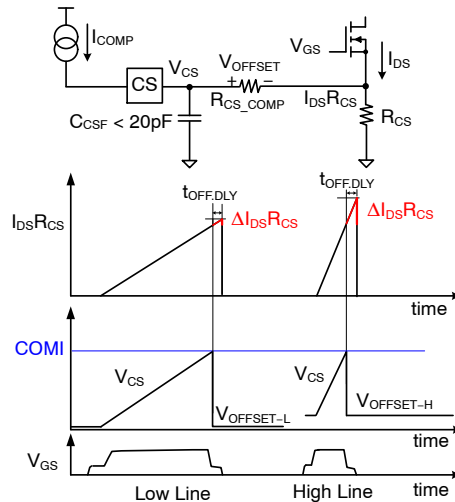
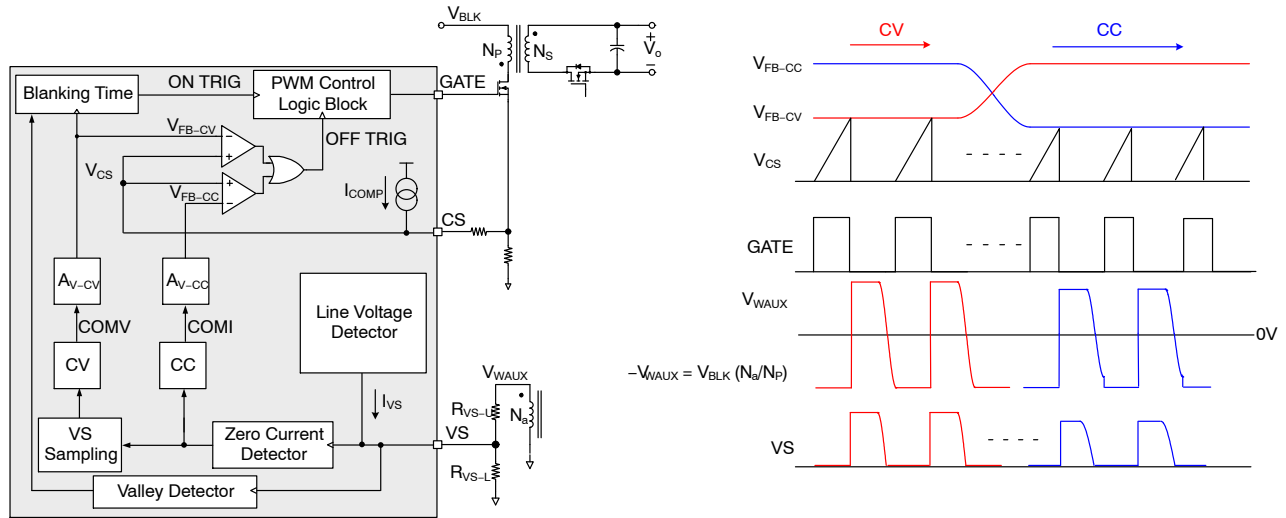

Figure 30. Line Voltage Compensation
Figure 31. Simplified PSR Flyback Converter Circuit
Line information is obtained through the line voltage detector as shown in Figure 31.  $I_{COMP}$  is an internal current source which is proportional to line voltage. The line compensation gain is programmed by using CS pin series resistor,  $R_{CS\_COMP}$  depending on the power FET turn-off delay ( $t_{OFF,DLY}$ ).  $I_{COMP}$  creates a voltage drop ( $V_{OFFSET}$ ) across  $R_{CS\_COMP}$ . This line compensation offset is proportional to the DC link capacitor voltage ( $V_{BLK}$ ) and turn-off delay ( $t_{OFF,DLY}$ ). Figure 30 demonstrates the effect of the line compensation.
Figure 31 shows a simplified CV / CC PWM control circuit of the FAN108. The Constant Voltage (CV) regulation is implemented internally with primary-side control. The output signal of compensation (COMV) is scaled down by attenuator  $A_{V-CV}$  to generate a  $V_{FB-CV}$  signal. This  $V_{FB-CV}$  signal is applied to the PWM comparator to determine the duty cycle.
These two control signals,  $V_{FB-CV}$  and  $V_{FB-CC}$  are compared with a voltage of current sense ( $V_{CS}$ ) by two PWM comparators to determine the duty cycle. Figure 31 illustrates the outputs of two comparators combined with an OR gate, to determine the power FET turn-off instant. Either of  $V_{FB-CV}$  or  $V_{FB-CC}$ , the lower signal determines the duty cycle. During CV regulation,  $V_{FB-CV}$  determines the duty cycle while  $V_{FB-CC}$  is saturated to HIGH level. During CC regulation,  $V_{FB-CC}$  determines the duty cycle while  $V_{FB-CV}$  is saturated to HIGH level.
For heavy load condition, the blanking time for the valley detection is fixed and primary side peak current will be modulated by voltage level of feedback ( $V_{FB-CV}$ ). For the medium load condition, the blanking time is modulated as a function of load current such that the upper limit of the blanking frequency varies from  $f_{BNK-MAX}$  as load decreases where the blanking frequency reduction stop point is  $f_{BNK-MIN}$ . For the light load condition, the peak of  $V_{CS}$  is fixed by  $V_{CS-IMIN}$  (0.175 V) and the energy will be modulated by the function of Pulse Frequency Modulation (PFM), as shown in Figure 31.